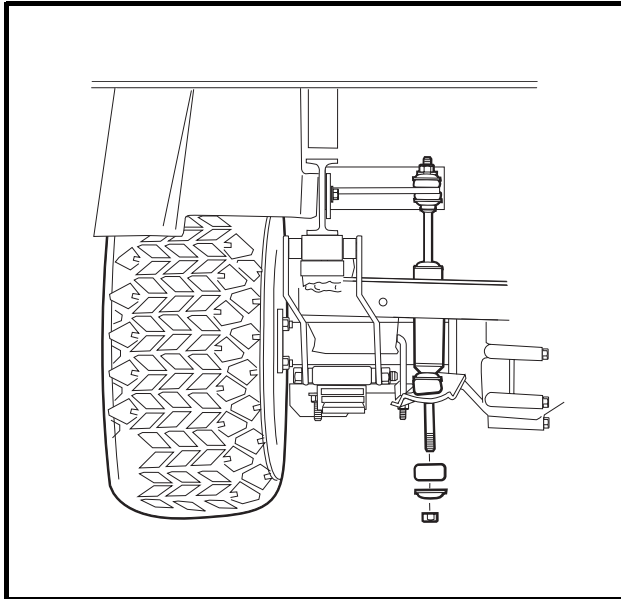

Figure 18-20 Shock Absorbers
6. Remove the lower shock mounting hardware from both rear shocks (**Figure 18-20, Page 18-10**).